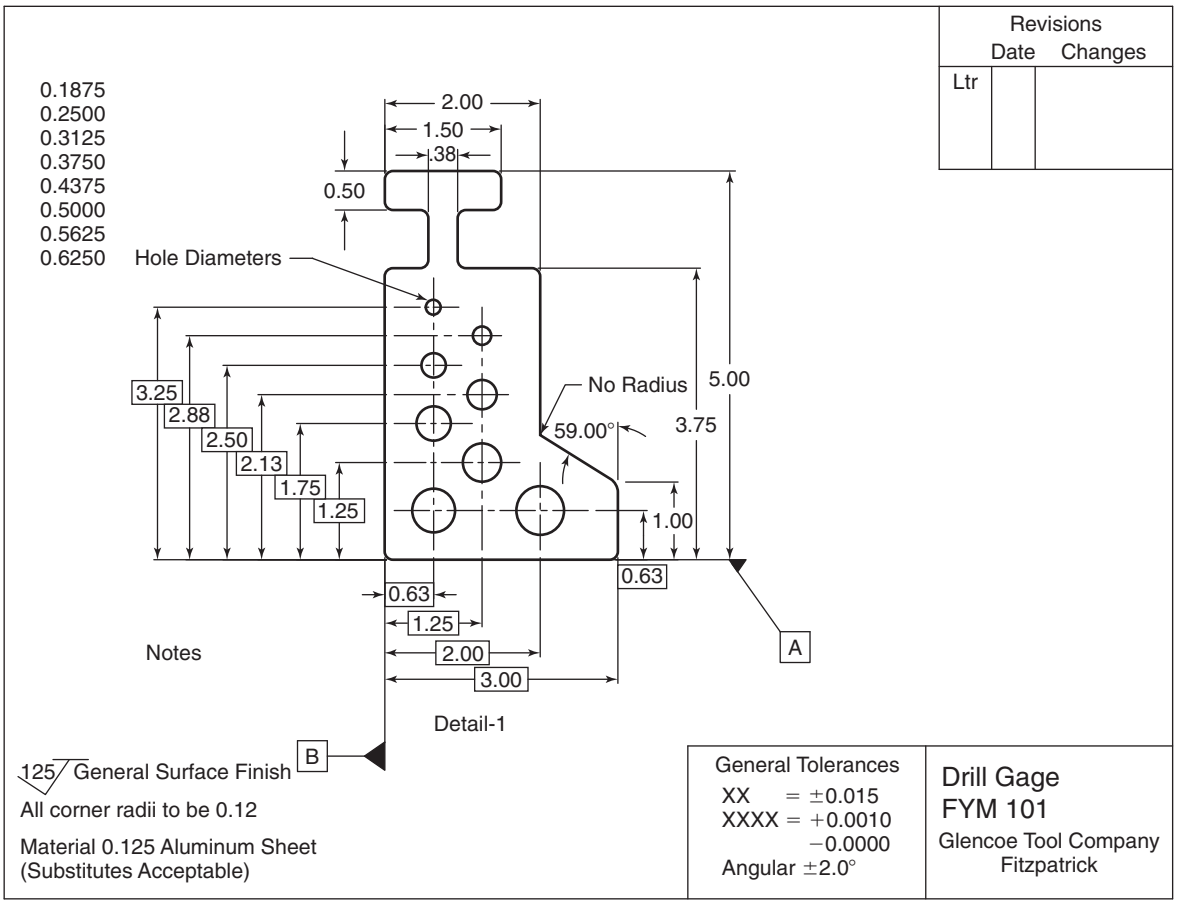

Figure 5-2 Drill gage drawing—sheet 1 of 1.
To simulate a real job, here in Chapter 5 we’ll track the work order instructions for a batch of 12 parts. We’ll make a dozen drill gages (QTY-12) using Work Order Number S5-U1-1 (Fig. 5-1) and the drawing in Fig. 5-2. Bookmark them; we’ll be refer to them several times. That’s typical of the way jobs proceed in the shop, going back to the work order and print often.
Each progressive revision letter signifies that the drawing has been redrawn and any number of changes could have been incorporated into the design print at that time. Look in the upper right corner of Figs. 5-2 and 5-3, the sample prints. You must know the level of the drawing.
Check the Revision Box Look in the upper right corner of the drill gage drawing (Fig. 5-2). There have been no revisions; this is a *NEW* release drawing. It may be a very old design, but it has never been revised. The second print 203B-605 is at *Rev A*. It has been updated once, probably when the saw was improved. Brief notes in the Rev box give clues as to what those changes were. Normally you needn't worry about what the changes were; they are history as far as you are concerned. They have been incorporated onto the print. The important thing to ensure is that the next key points are followed.
2. Why would it be a big mistake to drill all the holes to the sizes shown on drawing FYM 101 (Fig. 5-2)? Which WO sequence covers this?